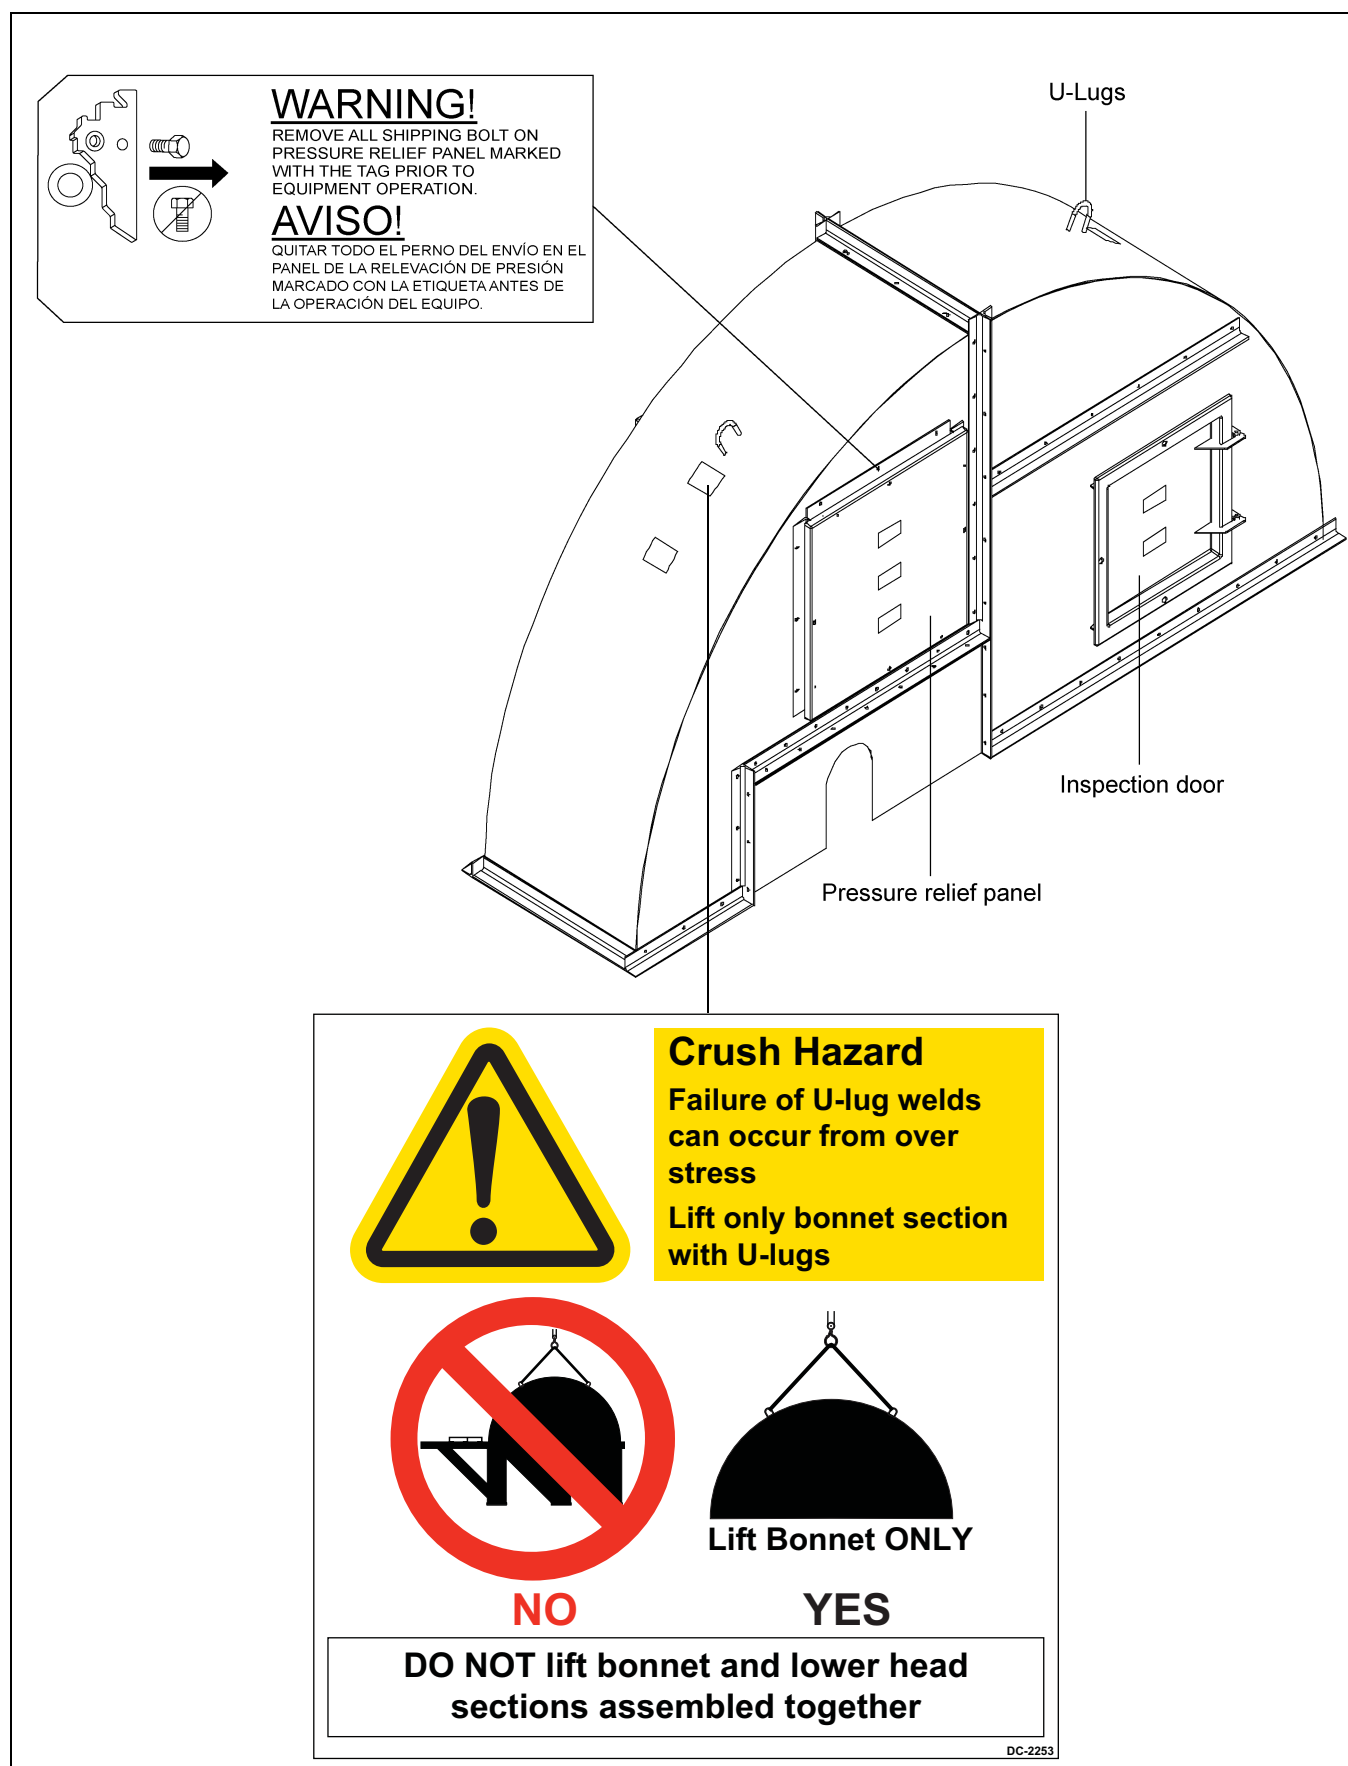

Figure 8B Head Bonnet
4. Hardware used to attach bonnet section to head section is included. (See Figure 8B on Page 26.)